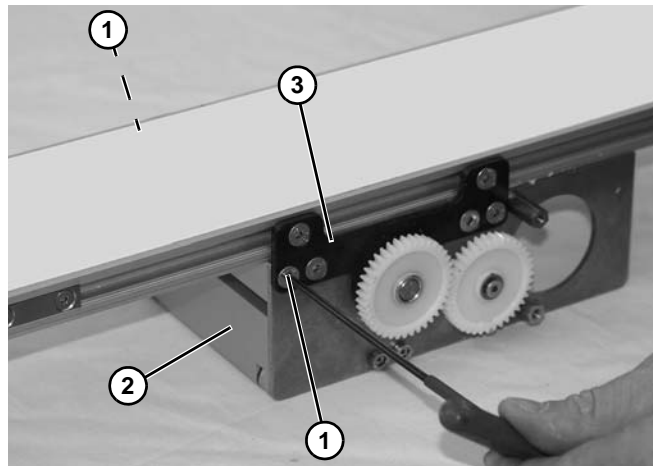

Figure 20
6. Remove one screw (**Figure 20, item 1**) on each side securing pinch drive guard (**Figure 20, item 2**) to conveyor pinch plate (**Figure 20, item 3**).